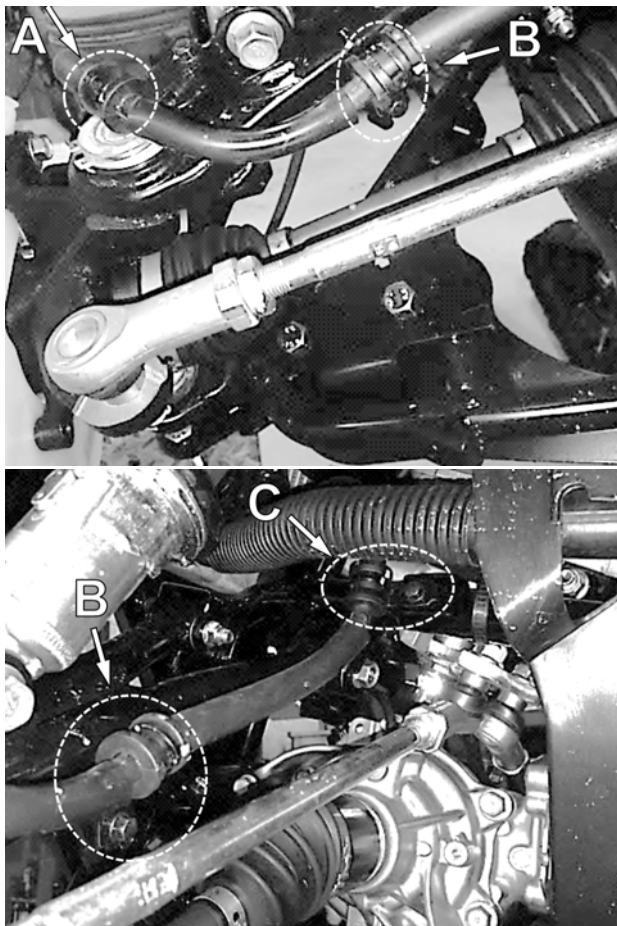

Fig. 13
3. Remove and discard brake hose clamp (A) near ball joint. Remove clamp (B) attached to middle of a-arm. Loosen clamp (C) attached to frame. Left side is shown on Fig. 13